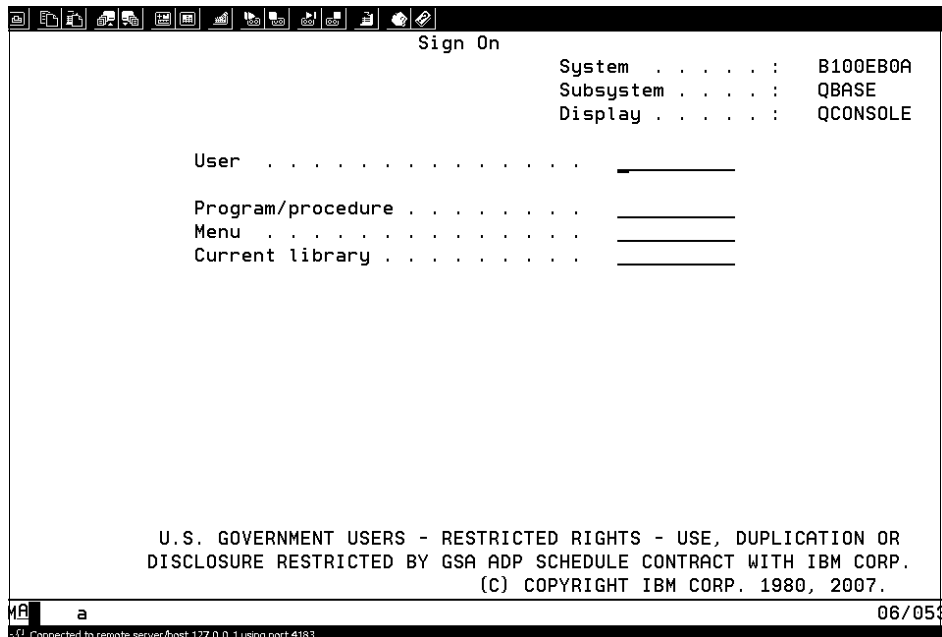

Figure 7-66 Sign On screen
8. When the Sign On screen is displayed, as shown in Figure 7-66 on page 311, the base installation of the IBM i 6.1 Operating System is finished.